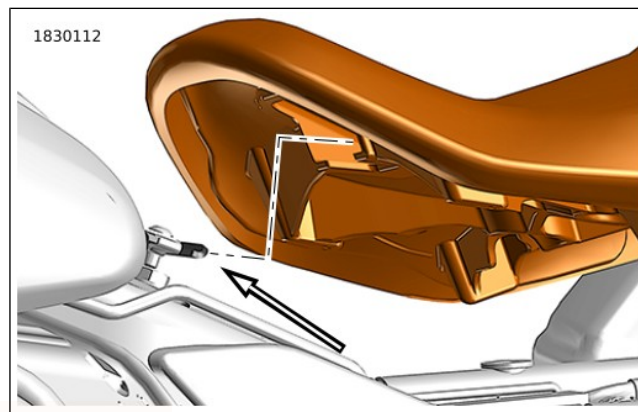

Figure 121. Seat Tongue
1. See Figure 121. Align slot in seat with seat tongue. Push seat forward while lowering to engage seat.